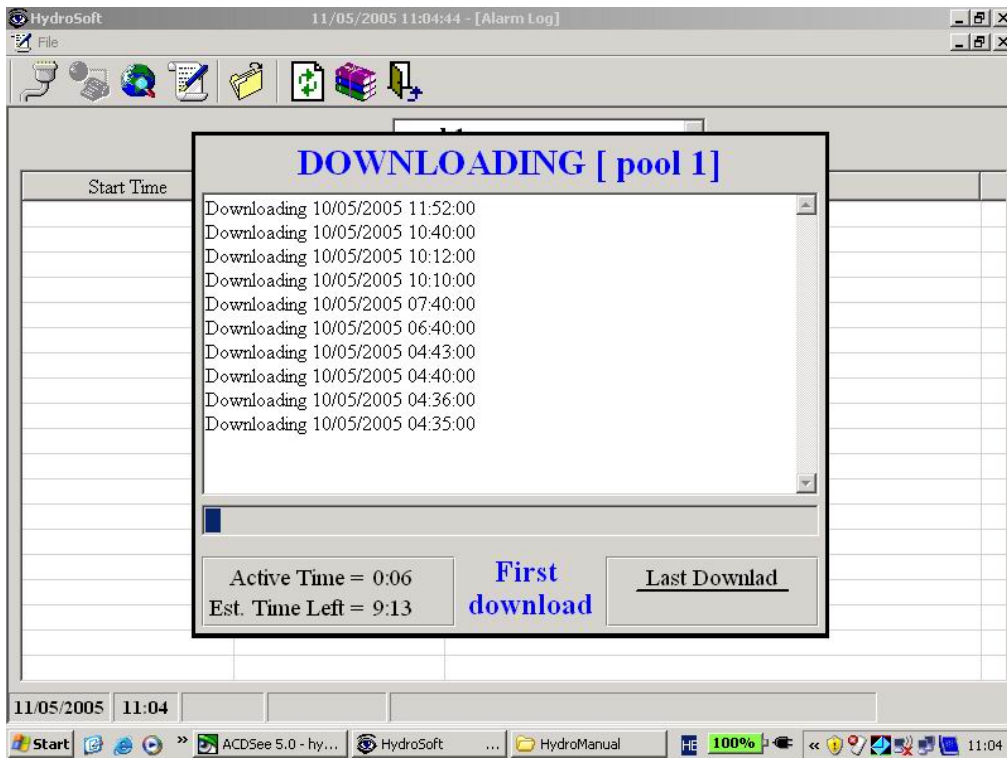

Figure 10: Downloading Data from the Selected Pool
4. The Hydrosoft will download all the history of the controller from the data logger and use it for the alarm and graph displays (Figure 10)